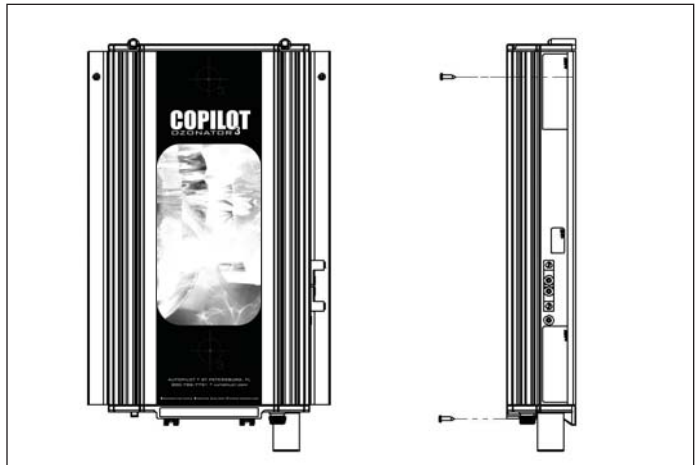

Figure 1 Wall Mount
- A pressure wire connector is provided on the outside of the unit to permit connection to a minimum No. 8 AWG (8.4 mm²) solid bonding conductor between this point and any metal equipment, metal enclosures of electrical equipment, metal water pipes, or conduit within five (5) feet (1.5m) of the unit as needed to comply with local requirements.
- Install at least 5 feet (1.5 meters) from wall of pool using nonmetallic tubing. Install ozone generator no less than one (1) foot above maximum water level to prevent water from contacting electrical equipment. Install in accordance with the installation instructions.
- The CoPilot must be installed in an outdoor location, or indoors in a forced air ventilated room, and installed so that the orientation is exactly as shown in Figure 1. Install to provide water drainage of generator to protect electrical components.
The CoPilot units are designed for wall mounting. **See Figure 1.** Mount generator in a clean, protected area, either indoors or outdoors (preferably out of direct sunlight). Locate generator out of reach of sprinklers or drainage spouts. Allow sufficient access for maintenance and all tubing and electrical wires. The ozone generator should be installed at least (not less than) one foot above the maximum water level.
1. Refer to Figure 1 to mark the locations for the four mounting screws.